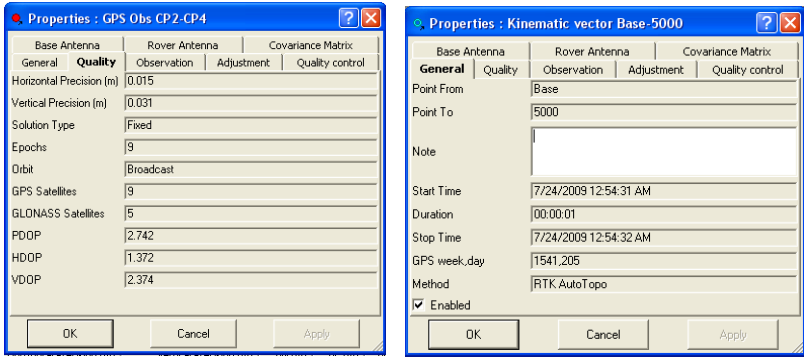

Figure 5-121. General Properties
2. View or edit the *General* tab fields (Figure 5-121).